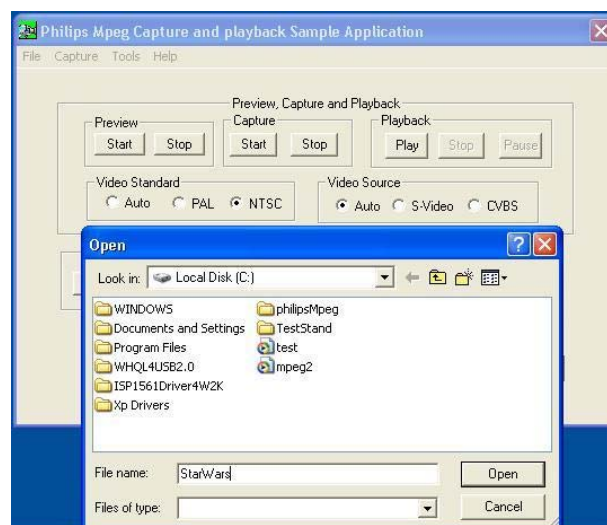

Figure 5-4: Open Dialog Box
2. The *Open* dialog box appears; see Figure 5-4. Enter a file name for the movie or select an existing file, if you want to overwrite an existing file.